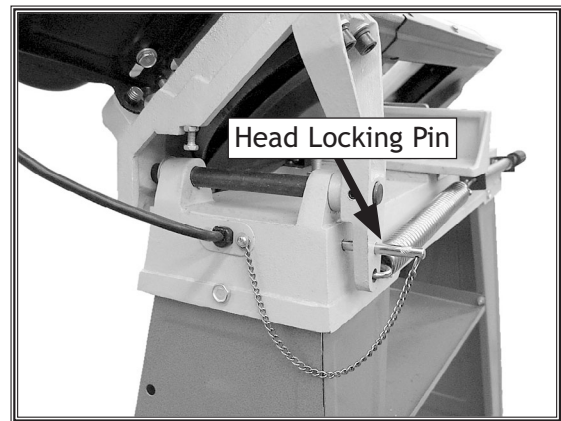

Figure 28. Head locking pin correctly installed.
2. Fully lower the head down, then insert the locking pin through the holes in the head pivot arm and base, as shown in **Figure 28**.